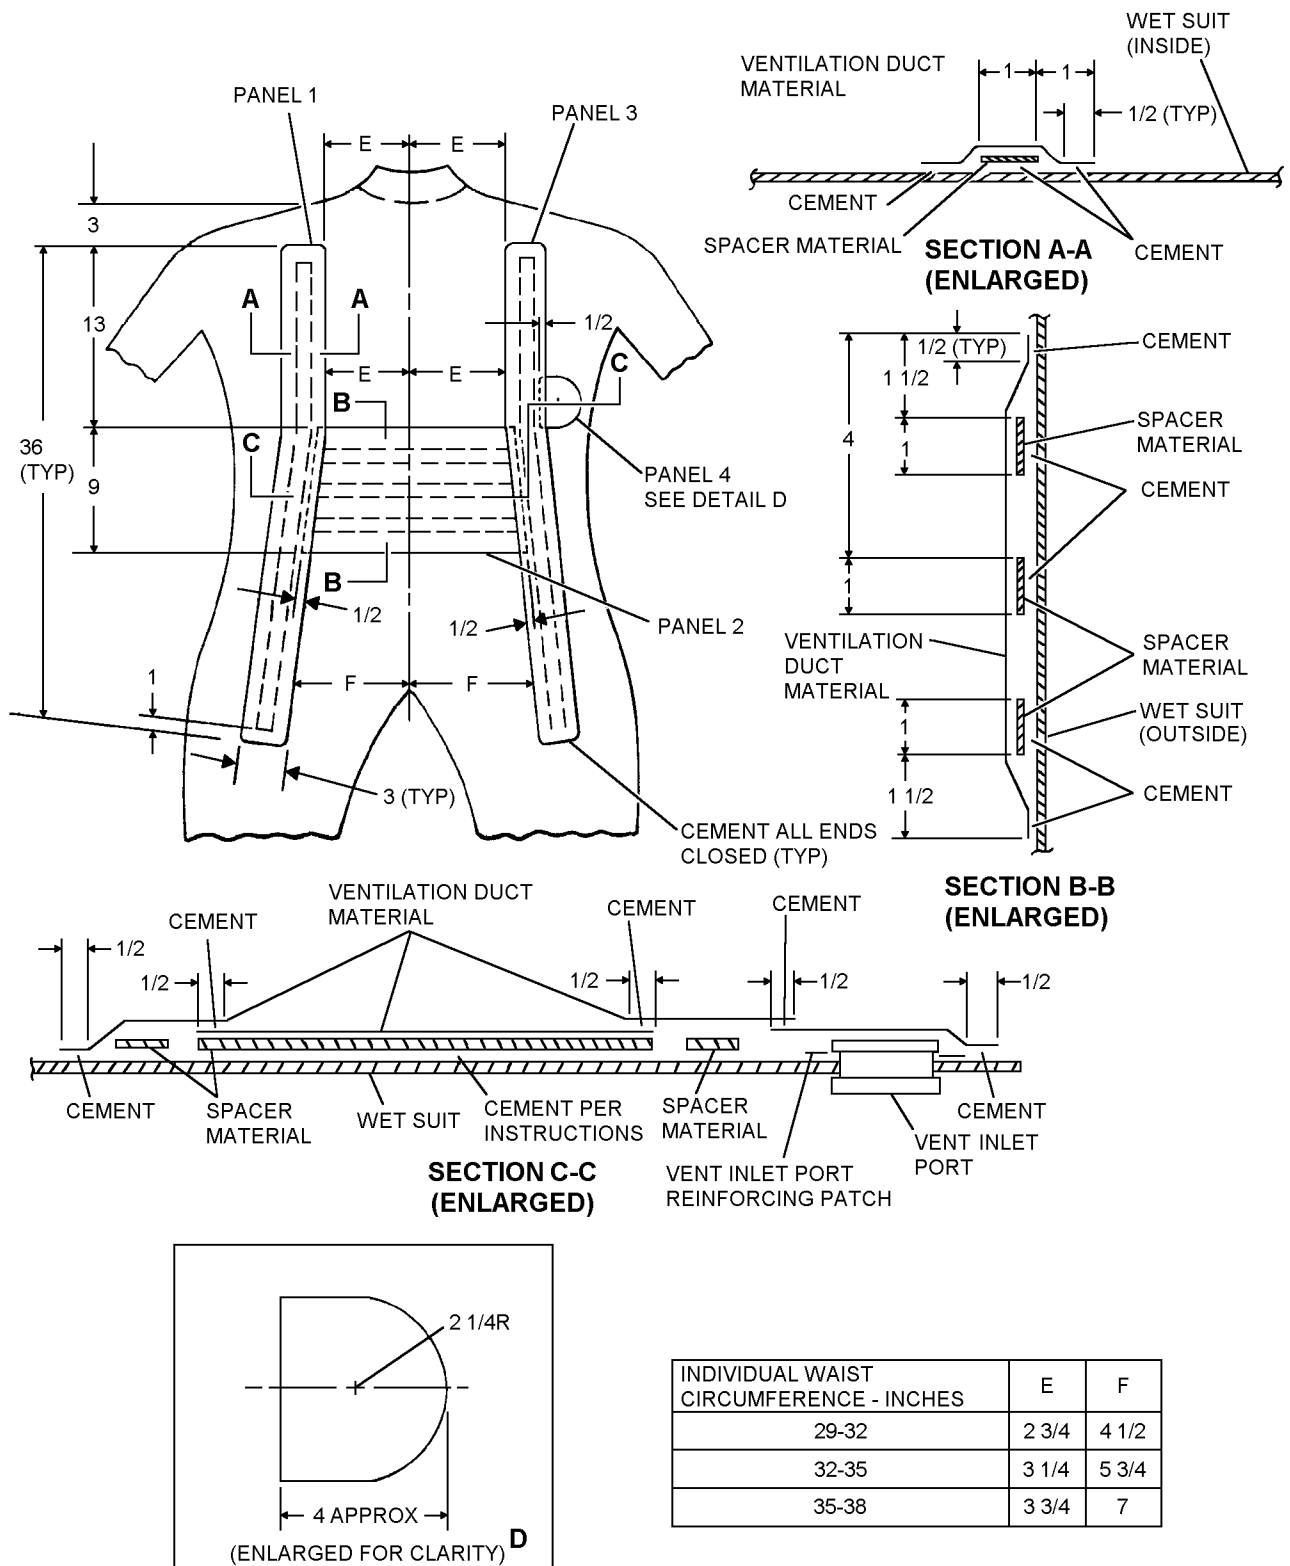

Figure 5-21. Ventilation Duct Panel Position (Suit)
c. Cut the ventilation duct panel pieces 1, 2, 3, and 4. Place panels on the wet suit and mark their location. See figure 5-21.
l. Cement 1-inch wide strips of Trilok spacer materials to the wet suit using two coats of neoprene adhesive; allow 10 to 30 minutes between each coat. Cement spacer material to wet suit only every 4 inches (approx.) for a distance of 1/2 inch. See figure 5-21.